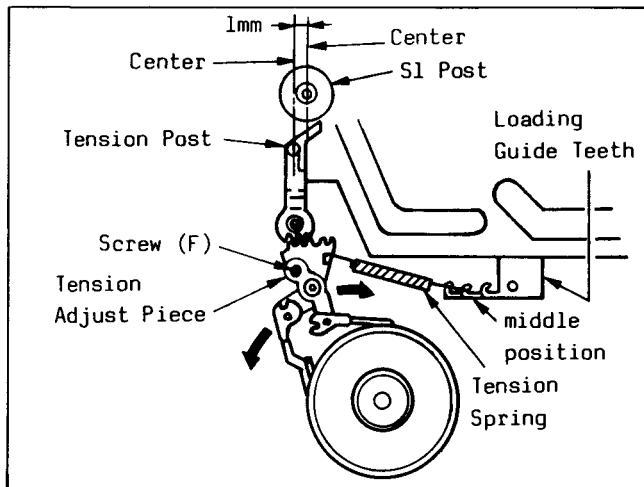

Fig. M13
- (1) Remove the Cassette Up Unit.
- (2) Cover the Tape End Sensor and Cassette Up/Down Sensor with Black Tape.
- (3) Push the Play button to complete loading operation sequence.
- (4) As soon as loading is completed, disconnect the AC plug of AC Adaptor.
- (5) Loosen Screw (F) a little bit and adjust the Tension Adjust Piece (in either direction) as indicated by the arrow so that the center of the Tension Post is 1mm to the left of the center of the S1 Post as shown in Fig. M13. Tighten Screw (F) to secure it.
After this adjustment, reposition Tension Spring on Loading Guide Teeth to middle position as a Back Tension Adjustment as shown in Fig. M13.